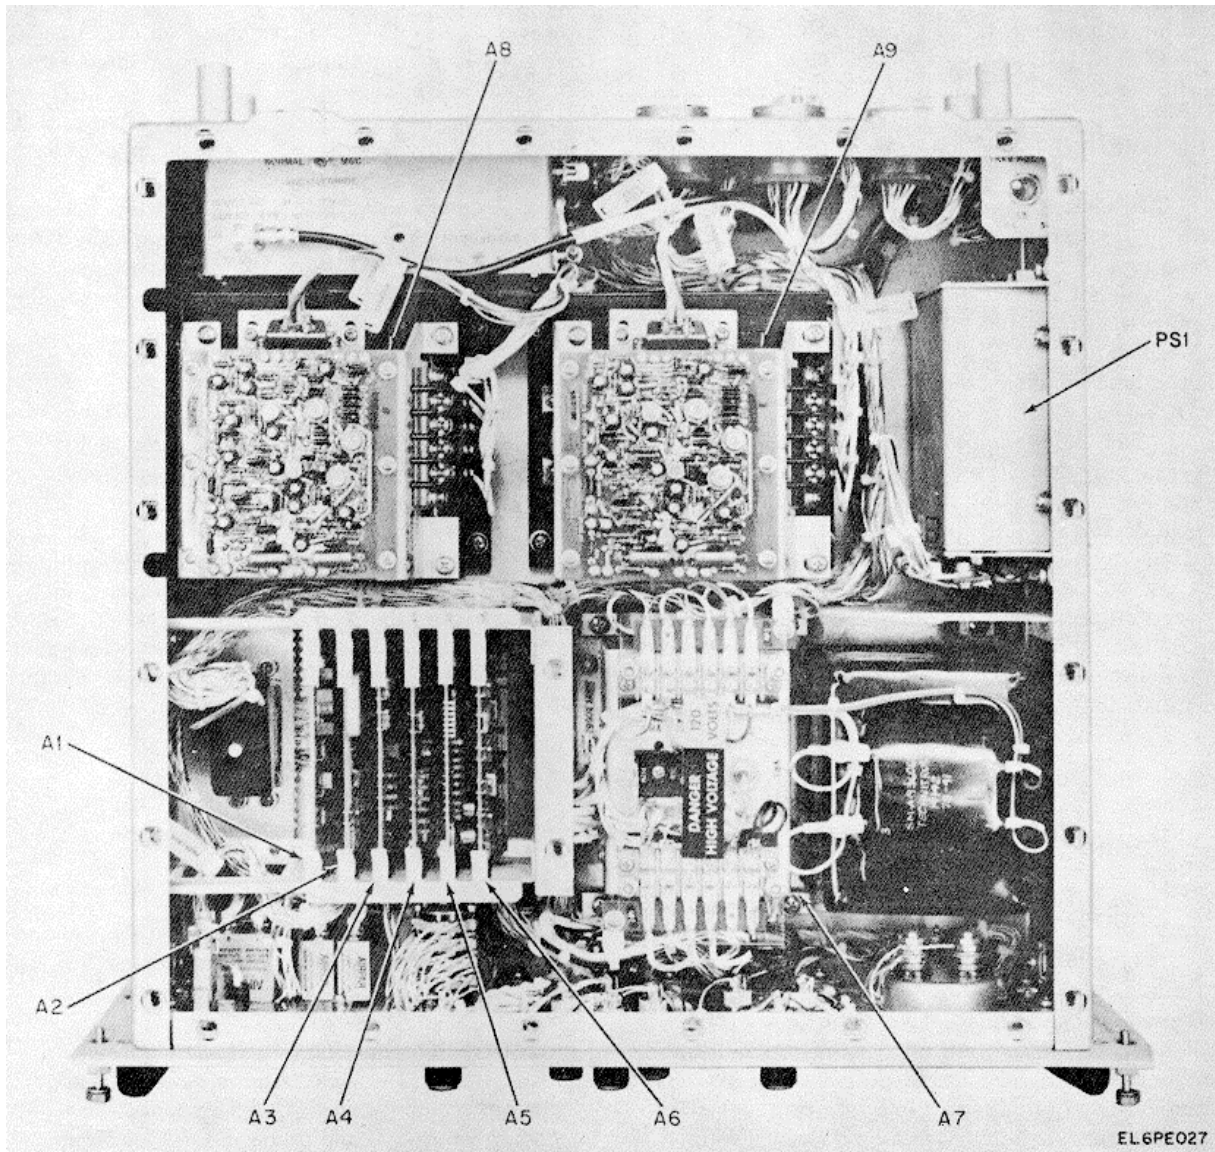

Figure 5-1. Antenna Control Module Location
b. See figures 3-4 and 3-16 for location of controls and indicators. See figure 5-1 for location of removable items. When it is necessary to remove and
- (1) Place POWER AC switch in the OFF position.
- (2) Loosen the four captive screws holding the drawer to the rack.
- (3) Pull on the two handles and extend the drawer to its maximum extension.
- (4) Loosen the 26 quarter-turn screws which secure the cover to the drawer.
- (5) Remove the cover.
- (6) Locate the module to be removed (fig. 5-1).
- (7) Pull up on the extractor levers at each end of the module until the module is clear of its connector. Lift the module out of the drawer.
- (8) To replace the module, place it in the guides on each side and push down firmly until the module is properly seated in its connector.
- (7) Loosen the two captive screws and remove the connector at J1.
- (8) Loosen the screws on TB1 and remove the wires connected to the terminal board.
- (9) Loosen the four Phillips screws which secure the module to the chassis.
- (10) Carefully lift the module from the drawer taking care not to damage wires or components.
- (11) To replace the module place it in position in the drawer.
- (12) lose and secure the drawer.